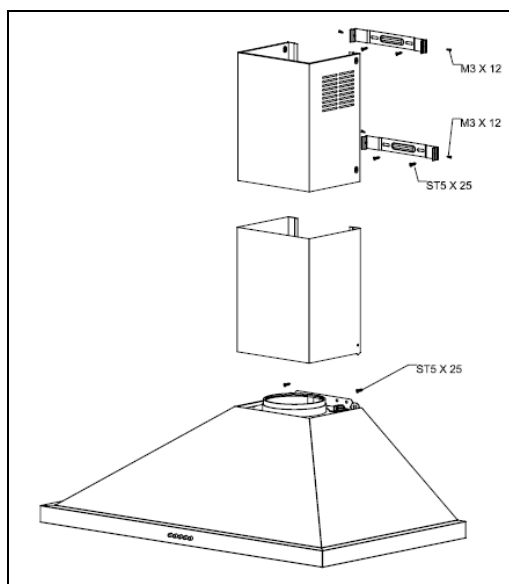

Fig. 8
- Fix the inner duct to both mounting bracket using 4(four) M3 x 12 screws provided (Fig. 8).